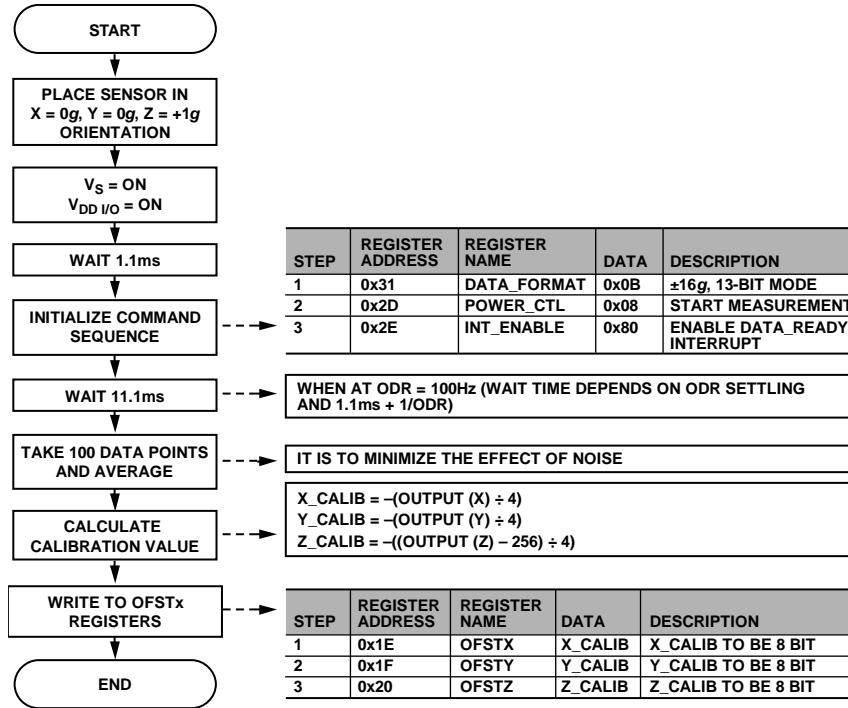

Figure 9. Offset Calibration Sequence
-156 mg should be written to offset register. Figure 9 shows the typical offset calibration sequence.